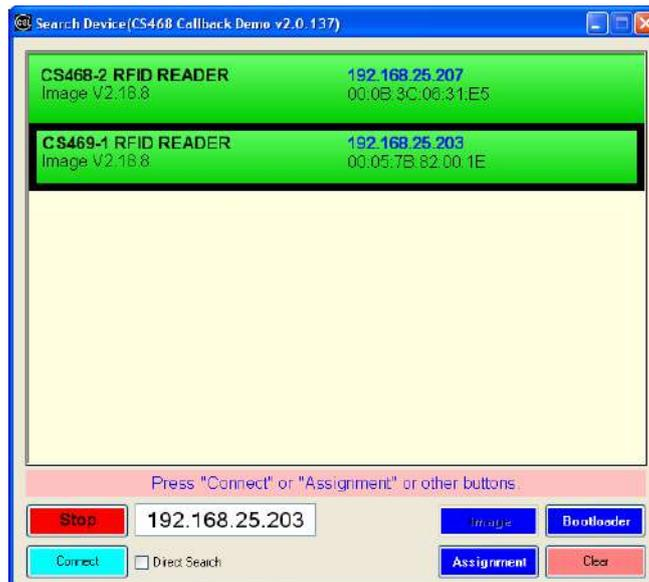

Fig. 5-2. Searching CS469
2. Available CS469 reader on the same subnet will be listed as shown in Fig. 5-2.